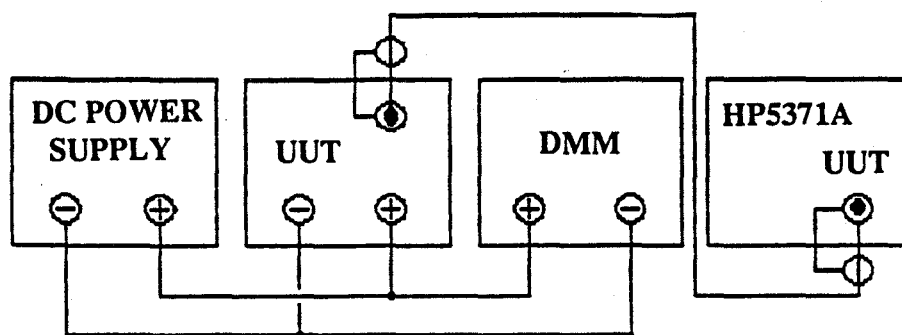

Figure 2.3. Operational Frequency Accuracy Test Setup.
2.9.1 Connect the equipment as shown in Figure 2.3.
2.10.1 With the equipment connected as shown in Figure 2.3, and the required stabilization time allowed, (refer to NOTE following 2.9.3), begin the test.